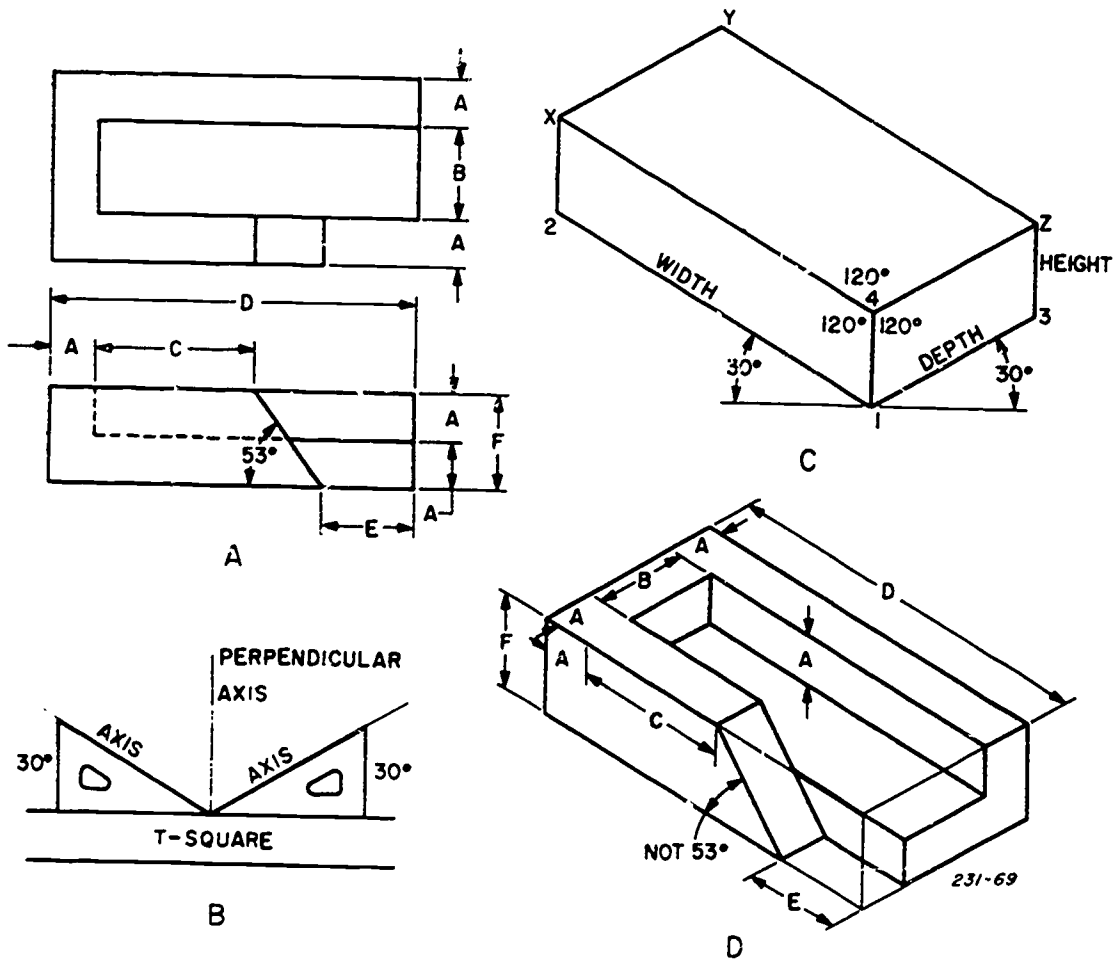

Figure 4-59. Box method for isometric drawing.
**Box construction.** The procedure which follows shows the method for drawing an isometric rectangular box whose sides coincide with the main faces of the object—height, width, and depth. Refer to figure 4-59 as you study the following procedure.
a. From a point which represents the lower front corner (1) of the box, draw the three light construction lines as shown in part B of figure 4-59. These lines, 1-2, 1-4, and 1-3, are the three major axes for constructing the isometric box shown in part C.
c. The box can also be completed in the following manner. Notice that at the top front corner (4) of the box, the axes make  $120^\circ$  angles with each other. Because the
**Drawing the object.** The object drawn by means of the box is shown in part D of figure 4-59. Notice how measurements from part A set off on the corresponding isometric edges. Be sure to follow the rule of making all measurements on only the isometric axes or isometric lines. As you study these illustrations, use your dividers to compare the measurements. These measurements coincide with those in the multiview drawing because this is an isometric drawing, not a projection.
After the drawing is finished, erase the light construction lines. These lines are indicated in part D of figure 4-59.